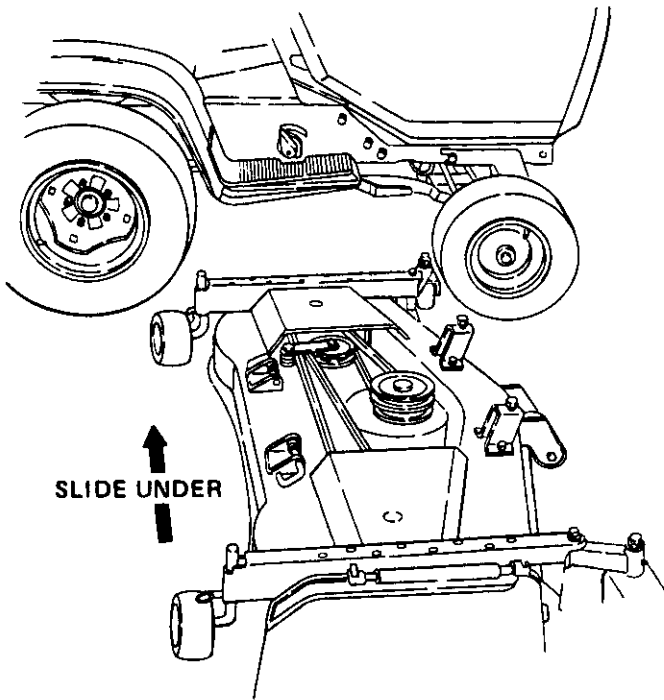

Figure 14
- Position the mower deck on the right side of the tractor as shown in Figure 14.
- In order to facilitate sliding the deck under the tractor, reposition the ball wheels as shown in Figure 14. First retract the quick release pins, then rotate right rear wheel outward 90 degrees and left rear wheel inward 90 degrees. Secure both rear balls with quick release pins so deck is in the lowest position possible.